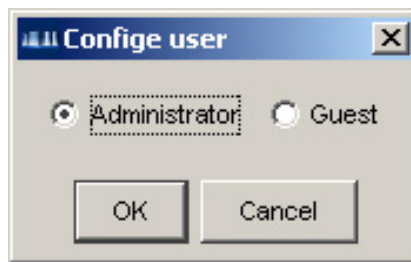

Figure 4-8: Access Rights Selection Box
- Step 4.** The **Configure user** dialog box appears. Select to log in either as an Administrator or Guest. An administrator has the authority to change any configuration client settings, unlike a guest is allowed to view the settings only. (See *Figure 4-8*)